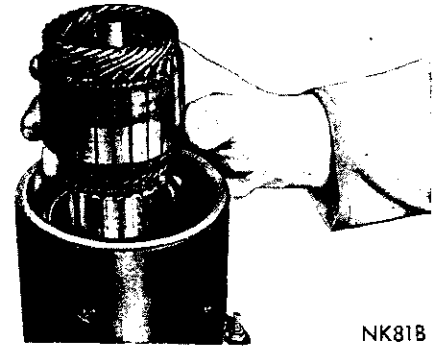

Fig. 22—Installing Starter Armature
(19) Position field frame to the exact position on gear housing and enter armature into field frame and starter gear housing (Fig. 22); carefully engaging splines of shaft with reduction gear by rotating armature slightly to engage the splines.
(20) Install thrust washer (fiber) and washer (steel) on armature shaft.
(21) Position starter end head assembly and install